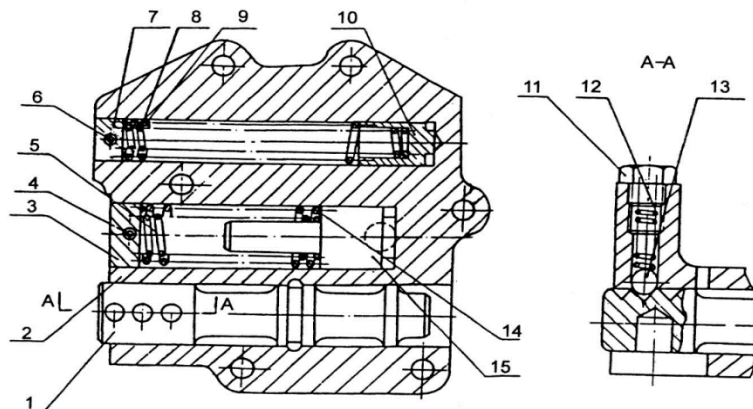

Figure 4-9 Control valve
1. Housing 2. Gearshift arm shaft 3. Control valve assembly 4. Relief valve Control valve assembly is composed of main pressure valve 10, buffer valve 15, shift control valve 1 and other parts, see Figure 4-9.